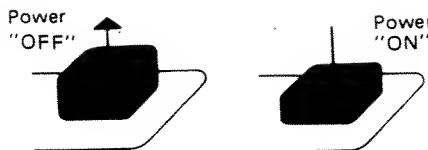

Figure 3
4. Check to make sure that the POWER button on the console is on the OFF position (see Figure 3).